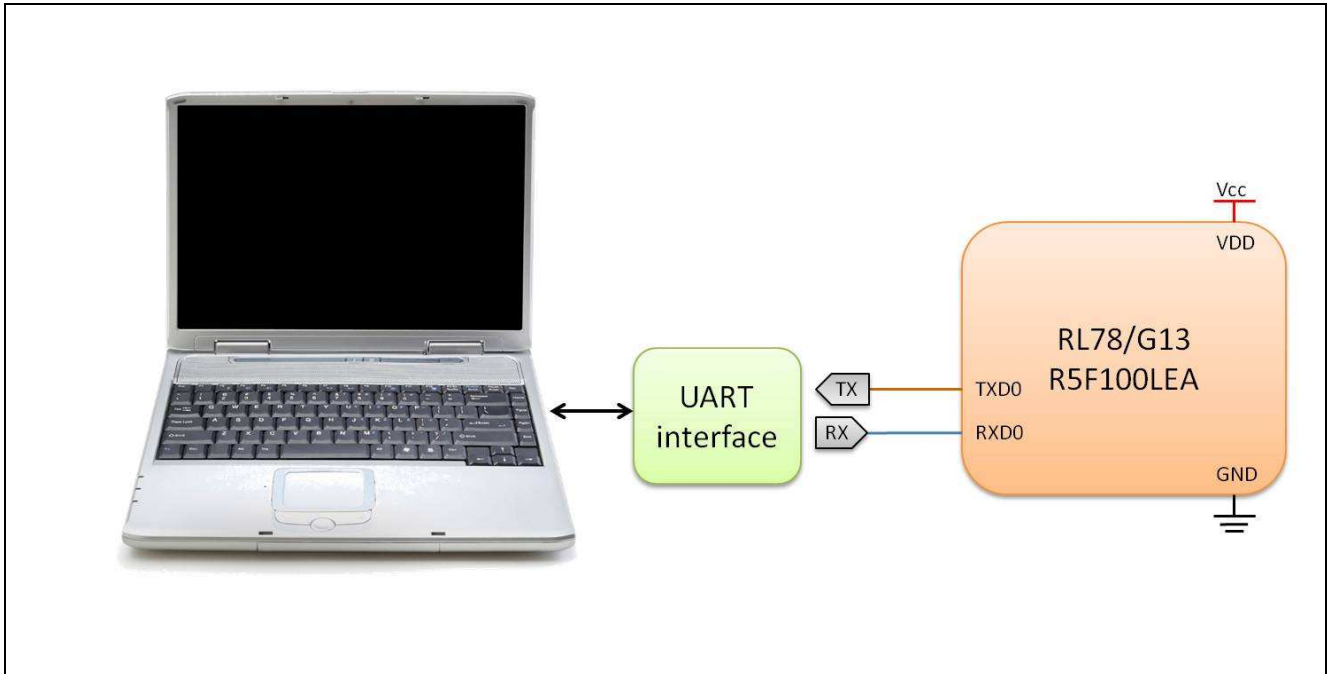

Figure 1 Hardware platform
- The RL78/G13 has a self-programming function that can be used to rewrite the flash memory via a user program. The communication interface can be decided by user’s design in user program, such as UART, I²C and so on. In this application note, the communication between host PC and RL78/G13 is via UART (see Figure 1). User can achieve the communication by using terminal emulation software like “HyperTerminal”.